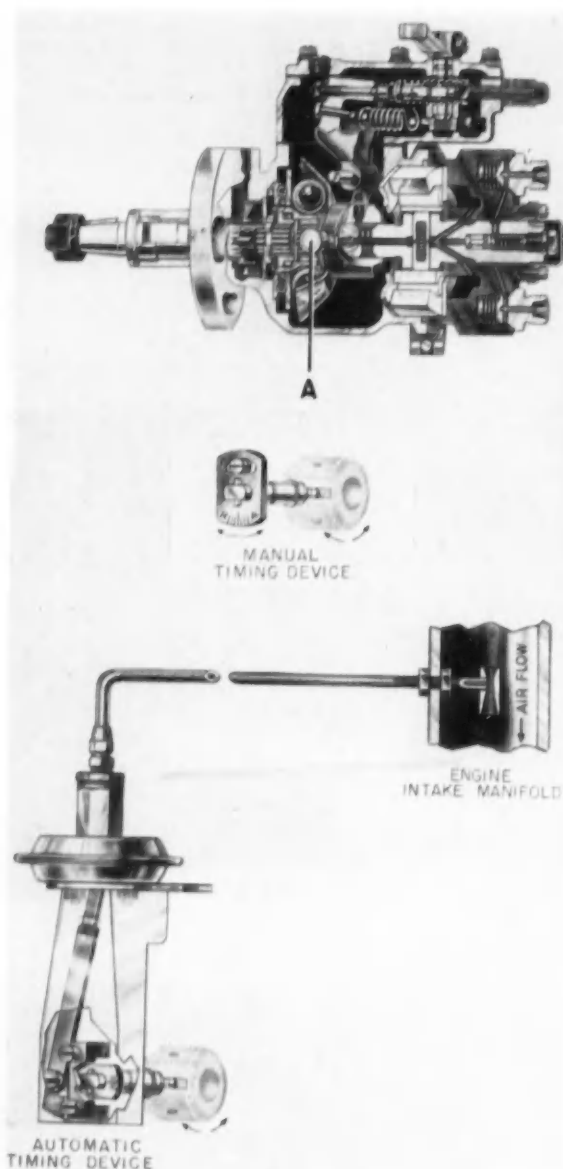
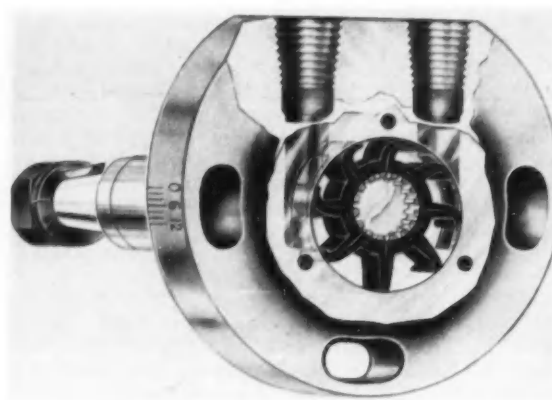

Fig. 9—Injection timing and fuel supply
Fig. 10—Fuel supply pump.
In order to have fixed timing, a pin (A) is installed (Fig. 9) which prevents the sleeve from turning. If an adjustable pin is used (also Fig. 9),
Automatic timing is also illustrated in Fig. 9. Air in the engine intake manifold is allowed to flow through a small venturi. The venturi is connected to a diaphragm which is linked to the injection timing lever and the movable pin. A small pressure drop will turn the sleeve since the turning force required is only the frictional force of the sleeve on the rotating shaft.
The fuel supply pump (B, Fig. 9) is mounted on the drive shaft in the forward end of the injection pump housing. The supply pump consists of a simple flexible-vane impeller surrounded by an eccentric bore, and is reversible and self-regulating. An enlarged view of the supply pump is shown in Fig. 10.